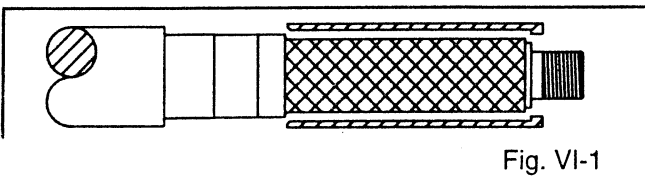

Fig. VI-1
5. Slide the sleeve onto the shaft immediately after removing it from the oven. Push the sleeve onto the shaft until the sleeve bottoms out on the shoulder of the shaft (Fig. VI-1). The hook end of the sleeve will extend beyond the knurled portion of the shaft.